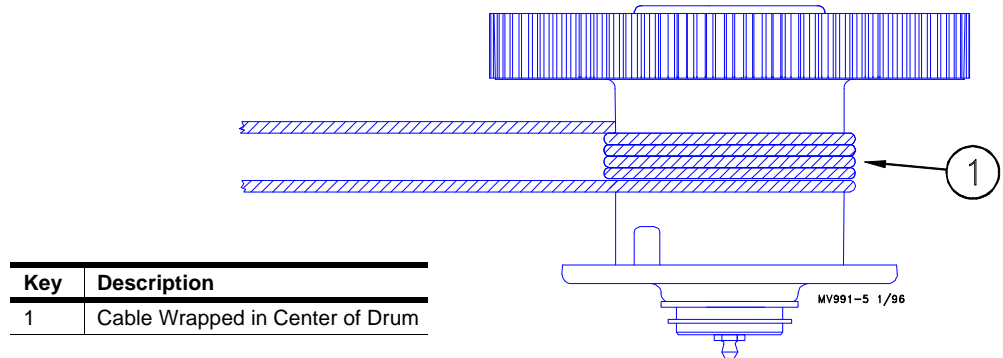

Figure 3. Cable Wrapped Around Drum
3. Wrap four turns of a 20 foot length of cable to the drum on the power unit as shown in **Figure 3**.